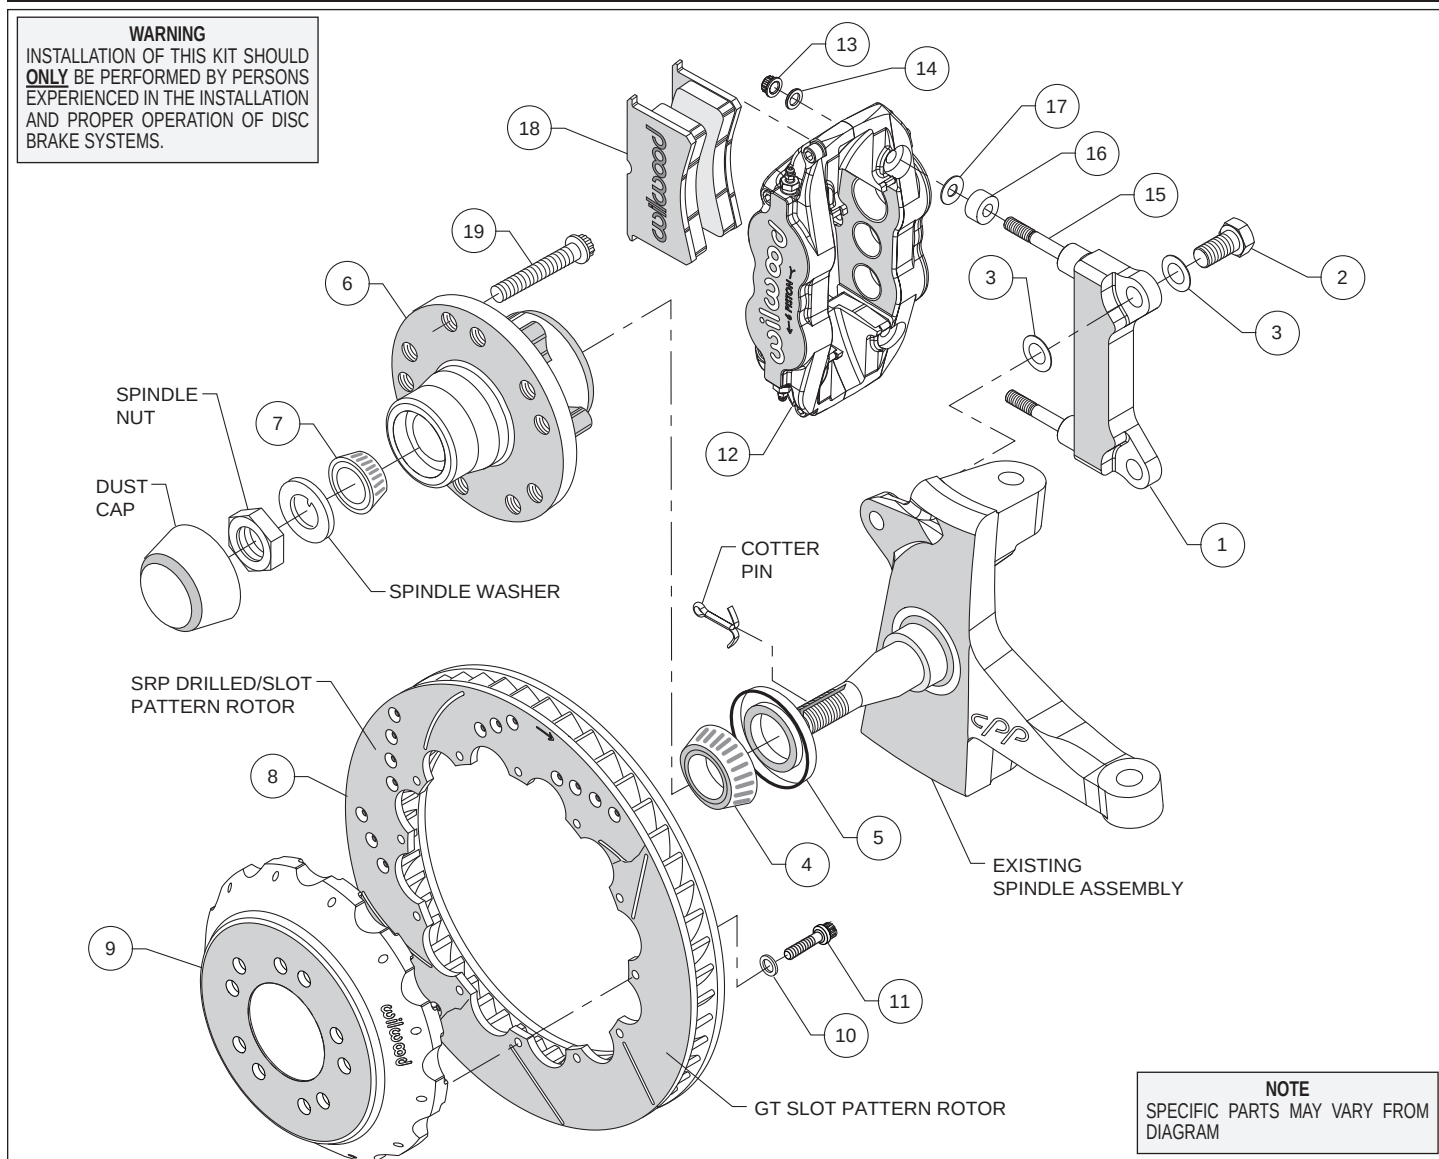
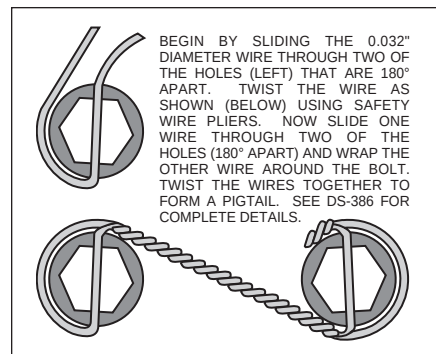

Figure 1. Typical Installation Configuration
Figure 3. Safety Wire Diagram
- The caliper mounting bracket assembly (1) should be installed first with clean, dry threads on the mounting bolts. Install the bracket on the inboard side of the spindle by sliding bolt (2) through washer (3), and through bracket (1) from the back side of spindle. Place shim washer (3) between the bracket (1) and the spindle (see Figure 1). The bracket must tighten squarely against the side of the spindle body. Inspect for interference from casting irregularities, machining ridges, burrs, etc. Use two shim washers (3) between the bracket (1) and spindle during initial trial fitting.
- Install wheel studs (19) into the hub (6). Torque to 77 ft-lb. **NOTE:** *There are two five lug patterns in the hub (5 x 4.75 and 5 x 5.00).* Ensure the correct hub stud pattern is being used to fit the wheel application.
- Pack the large inner bearing cone (4) with high temperature disc brake bearing grease (available from your local auto parts store) and install into the backside of the hub (6).
- Install the grease seal (5) into the backside of the hub (6).
- Pack the small outer bearing cone (7) with high temperature disc brake bearing grease and install into front side of the hub (6). Slide the hub assembly (4, 5, 6 and 7) onto the spindle. Secure using spindle washer, adjusting nut, and nut locking device. Adjust wheel bearing pre-load per Original Equipment Manufacturer (OEM) specifications.
- With the larger I.D. side of the rotor (8) facing away from the hat (9), bolt rotor (8) to hat (9) through the backside of the rotor using bolts (11), and washers (10). Using an alternating sequence, apply red *Loctite*® 271 to the threads and torque bolts to 155 **in-lb**. For an added measure of security, the bolts may be safety wired using standard 0.032 inch diameter stainless steel safety wire as shown in Figure 3. Please refer to Wilwood's data sheet DS-386 (available at www.wilwood.com/Pdf/DataSheets/ds386.pdf) for complete safety wire installation instructions.
- **NOTE:** *This kit contains distinct right and left hand calipers that must be mounted in a specific direction, as described below.* Lubricate the caliper mounting studs (15) with lightweight oil. Initially place two .035" thick shims (17) and one spacer (16) on each stud as shown in Figure 1. Mount the caliper (12) onto the bracket (1) using lock nuts (13) and washers (14), Figure 1. Ensure that the caliper is mounted so that the largest pistons are at the rotor exit end of the caliper, in relation to the direction of rotor rotation. Temporarily tighten the lock nuts and view the rotor through the top opening of the caliper. The rotor should be centered in the caliper. If not, adjust by adding or subtracting shims (3) between the bracket and the upright. Always use the same amount of shims on each of the two mounting bolts.
- Remove the caliper center bridge pad retainer bolt, nut, and tube from the caliper. Slide the brake pads (18) into place. They should install easily without interference. Check that the outside radius of the brake pad is aligned with the outside diameter radius of the rotor face. Add or subtract shims (17) between the caliper and mount bracket to gain the proper alignment. Reinstall the center bridge pad retainer tube, bolt, and locknut. The locknut should be snug without play in the bolt or tube. Be cautious not to over tighten.